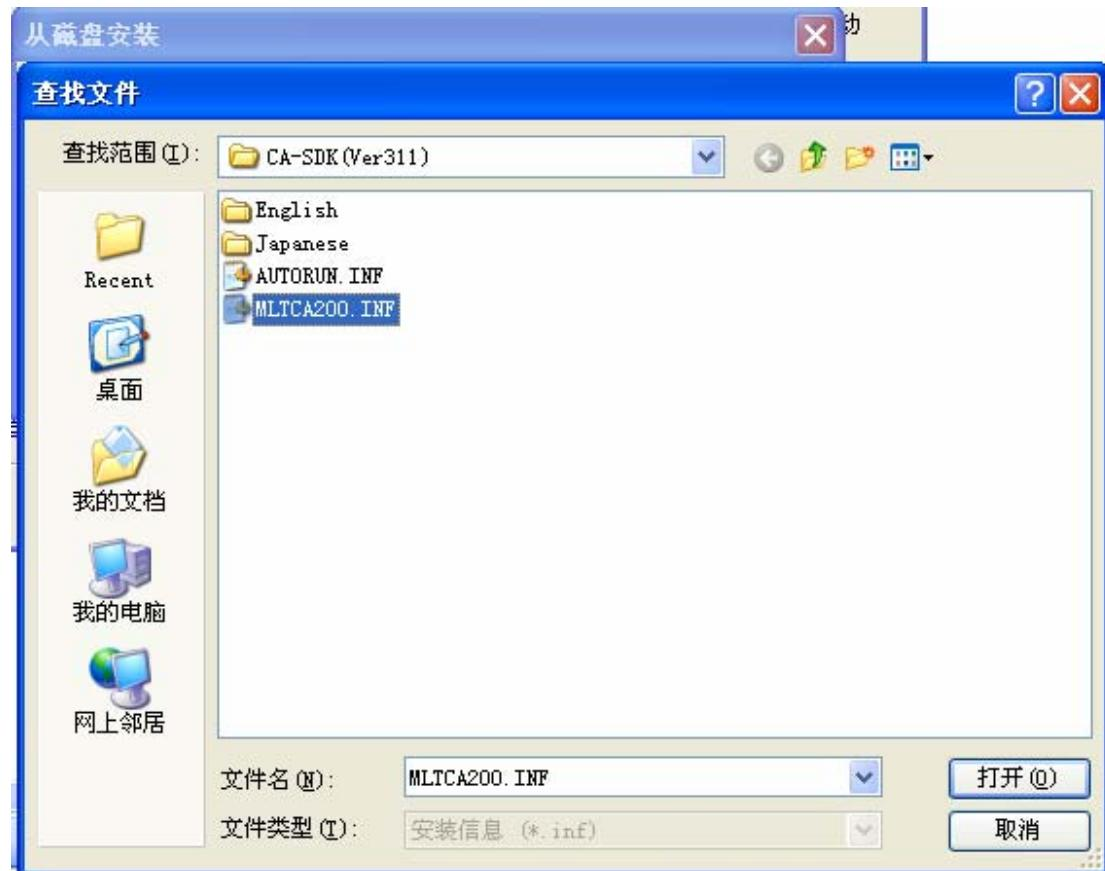

Fig. 7
- e) Select directory of driver and file “MLTCA200.INF” to begin setup, ignore the prompt “continue or not...” if it displays during setup process, please refer to Fig. 7;